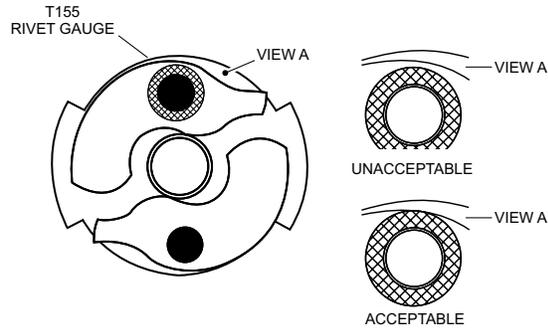

Figure 3.3.4A
7. Install the T-155 Rivet Gauge over the rivet head. (See Figure 3.3.4A.)
10. If the edge of the pawl is visible beyond or can be felt to extend beyond the edge of the T-155 Rivet Gauge, replace the coupling. (See Figure 3.3.4A)